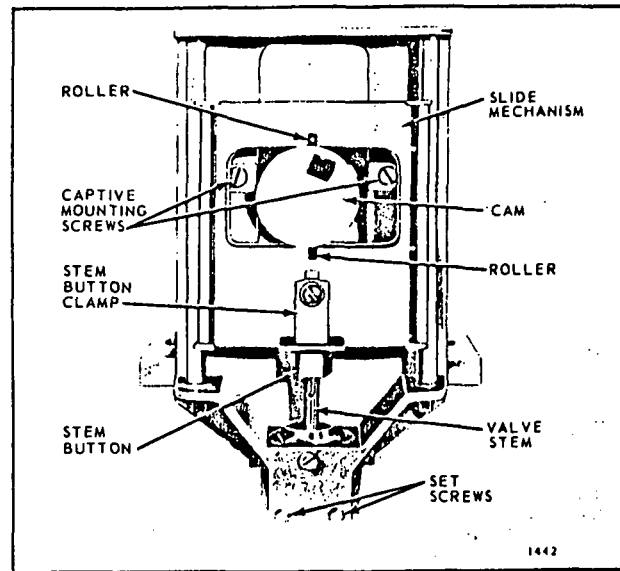

FIG. 2—INTERNAL PARTS OF THE Q618 VALVE LINKAGE.
3. Use the 2 bolts provided to fasten the linkage to the base of the motor. Note that the slide mechanism will have to be compressed slightly to fit over the cam. Put the nuts on these bolts, but leave them slightly loose (Figs. 2 and 3).